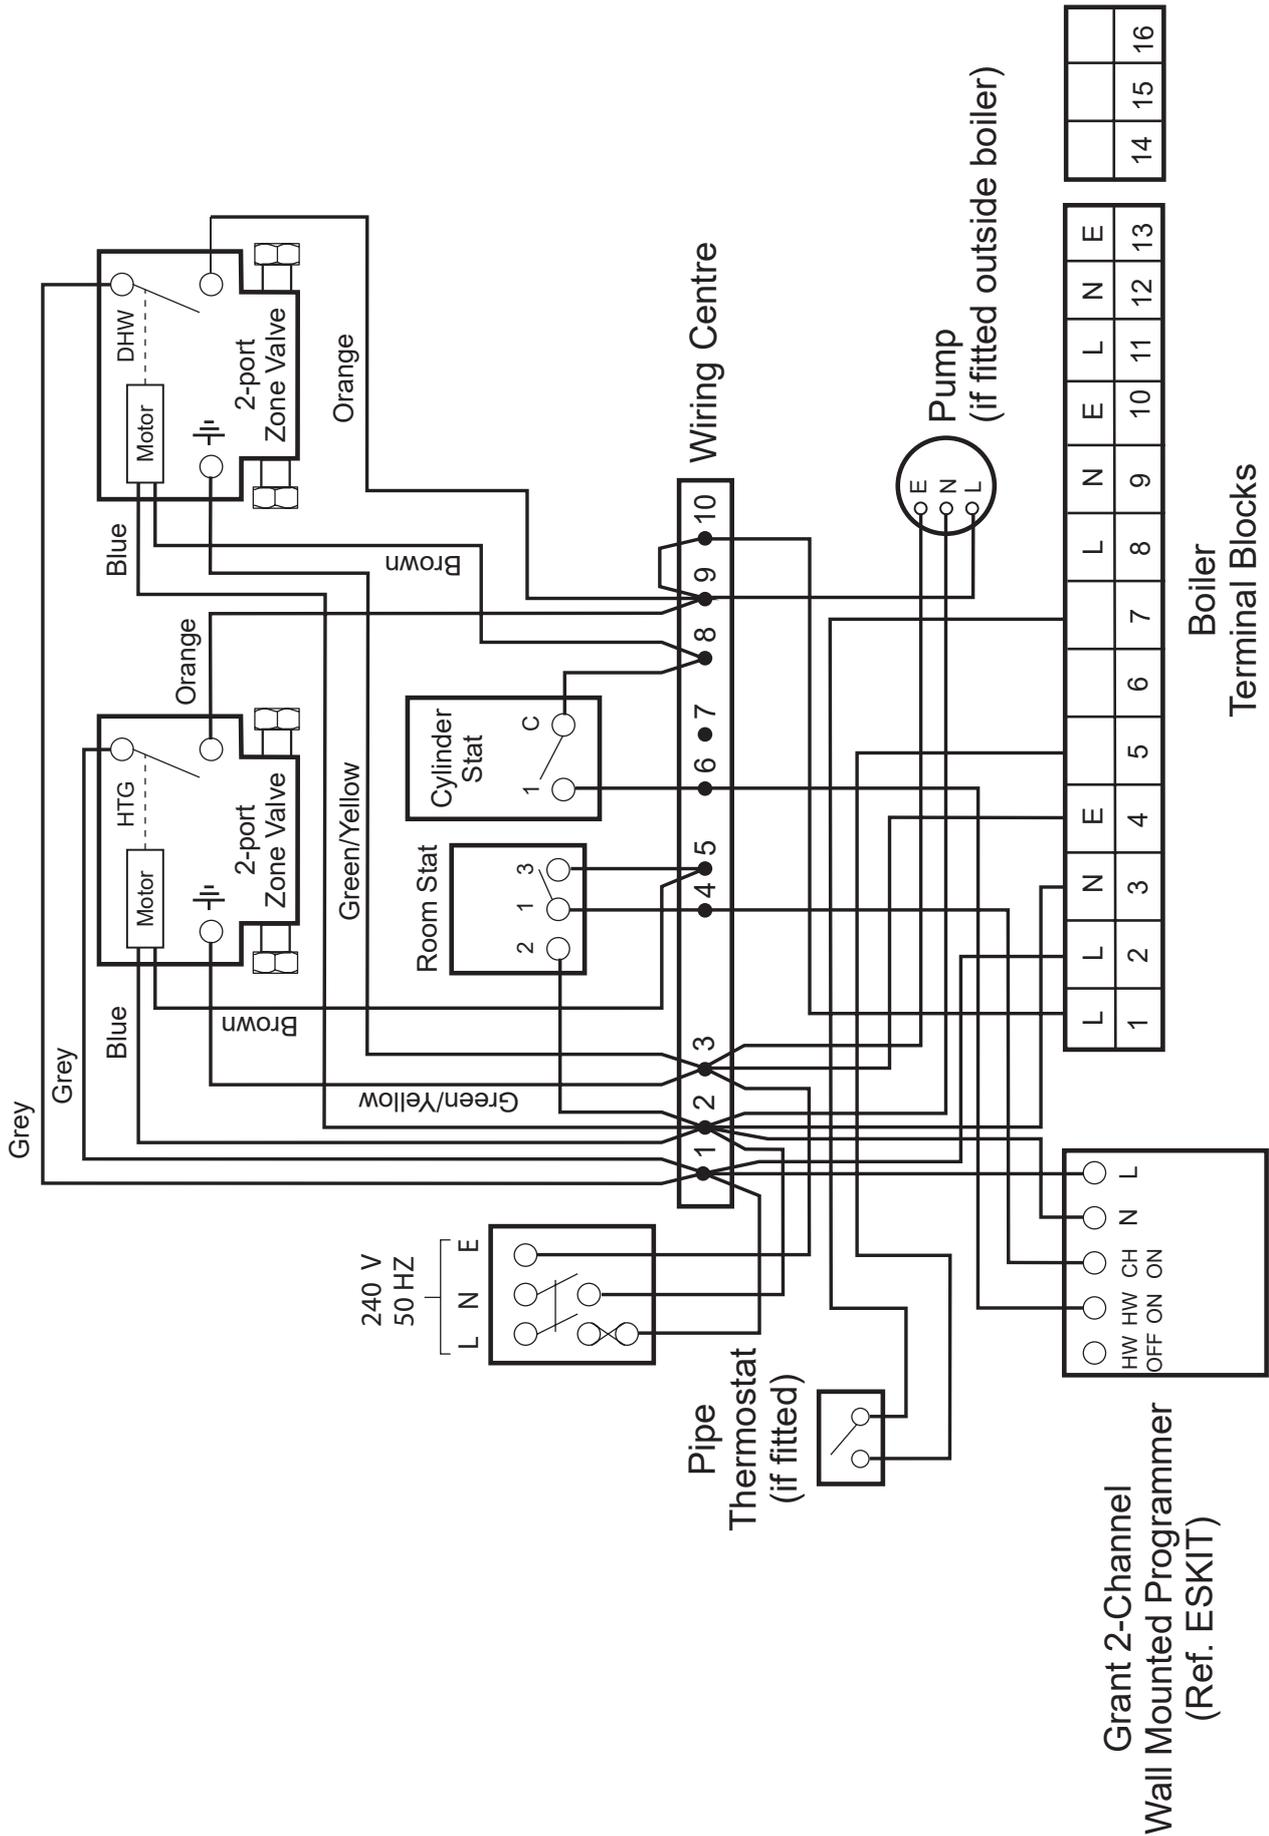

Figure 8-1: Vortex Pro External with S-plan type control system wiring diagram
Refer to Figures 8-1 and 8-2 for typical control system wiring diagrams for all models.
Refer to Figures 8-1 and 8-2 for typical control system wiring diagrams.
7. Make the remaining required connections to the control panel, as detailed in Figures 8-1 and 8-2.
For connection details please refer to Figures 8-1 and 8-2.